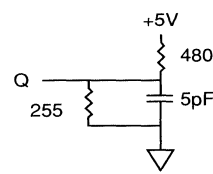

Fig. 2 OUTPUT LOAD EQUIVALENT
6. Output loading is specified with CL = 5pF as in Fig. 2. Transition is measured ± 500mV from steady state voltage.